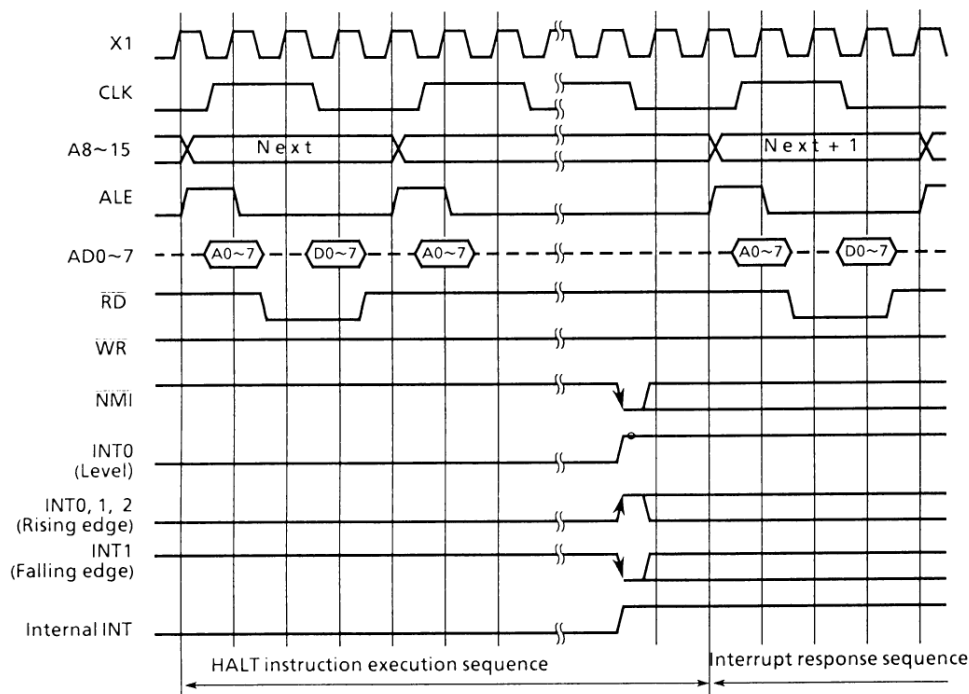

Figure 3.4 (2). Halt Release Timing Using Interrupts in the RUN/IDLE2 Modes
The timing for releasing the halt state by interrupts in the IDLE1 mode is shown in Figure 3.4 (3).